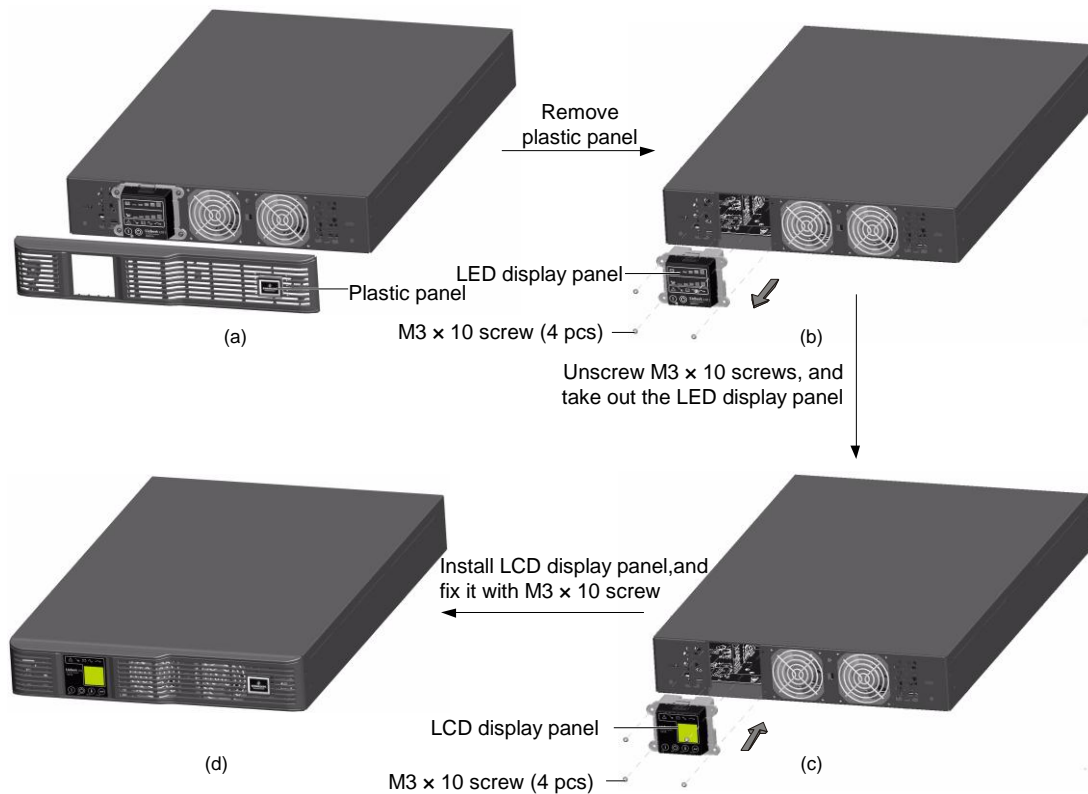

Figure 8-18 Installation of LCD display panel
2. Press the two ends of the UPS plastic panel by hand, gently pull the plastic panel outwards to remove it, as shown in Figure 8-18 (a).
3. Remove four M3 × 10 screws, which are used to fix the LED display panel on the UPS chassis, take out the LED display panel and relevant cables from the UPS chassis, as shown in Figure 8-18 (b). Disconnect the three cables that are connected to the LED display panel to remove the LED display panel.
4. Connect the three cables of the LCD display panel, use four M3 × 10 screws to fix the LCD panel, as shown in Figure 8-18 (c).
5. Install the plastic panel, as shown in Figure 8-18 (d).